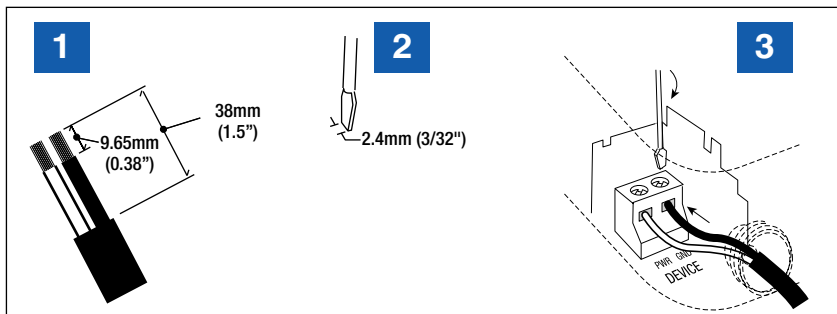
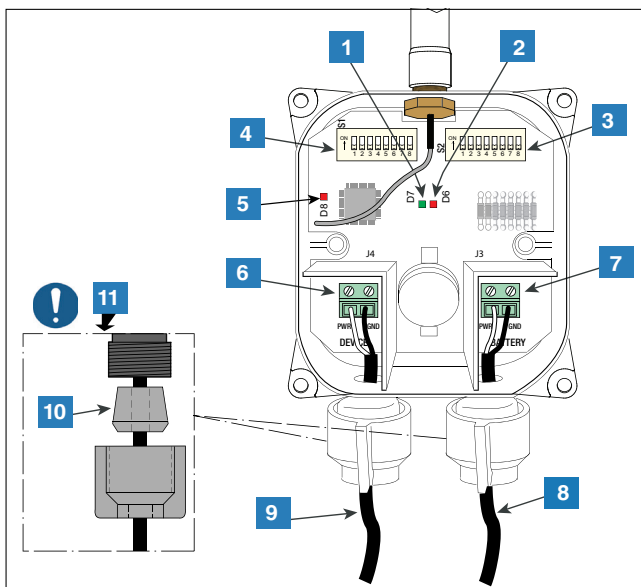

Figure 41. Typical Input Wiring to Transmitter Terminal Block
Figure 42. Connecting Device and Power Cables to the Transmitter
3. Get the two cord grip nuts and two bushings from the installation hardware kit. Slide the nut and then bushing onto each cable in the orientation shown in Figure 42. Verify that the bushing taper is oriented as shown in Figure 42 to ensure proper sealing.
4. Attach the cable from the surge protector to the DEVICE terminal block (white to PWR and black to GND) and the power cable to the BATTERY terminal block (white to PWR and black to GND) as shown in Figure 41 and Figure 42. Hand tighten both cable entry cord grip nuts until the cables are held firmly. Pull on the cables to verify that the nuts and bushings are relieving strain from the wire/terminal connections.
LEGEND FOR NUMBERED BOXES IN Figure 41
LEGEND FOR NUMBERED BOXES IN Figure 42
3. With the cover removed from the Transmitter and the (4) screws retained to the cover by the retaining washers, observe the following Transmitter LED patterns (ref. Figure 42):